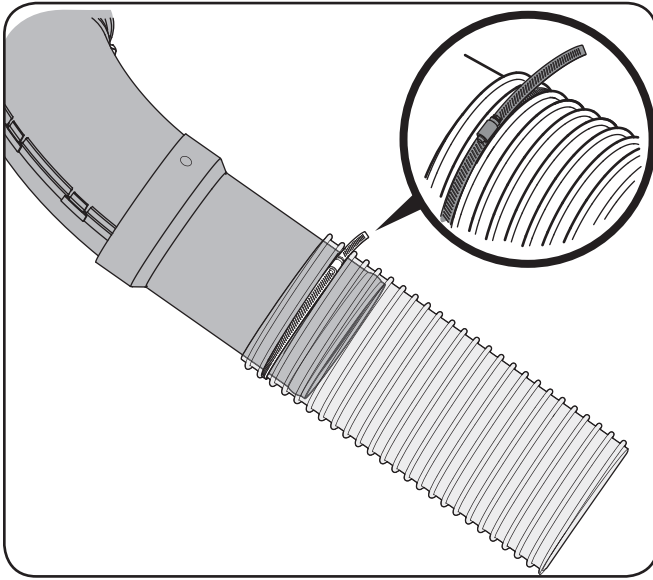

Figure 5-17
5. Install the upper chute and extension tube into the flexible hose extension as shown in Figure 5-17, positioning it over the wide adhesive rubber strip previously installed on the extension tube.
NOTE: Orientate the hose clamp so that it aligns over the wide adhesive rubber strip previously installed on the chute extension tube, and the excess from the clamp points inward and down with the tightening screw facing outward. See the inset of Figure 5-17.